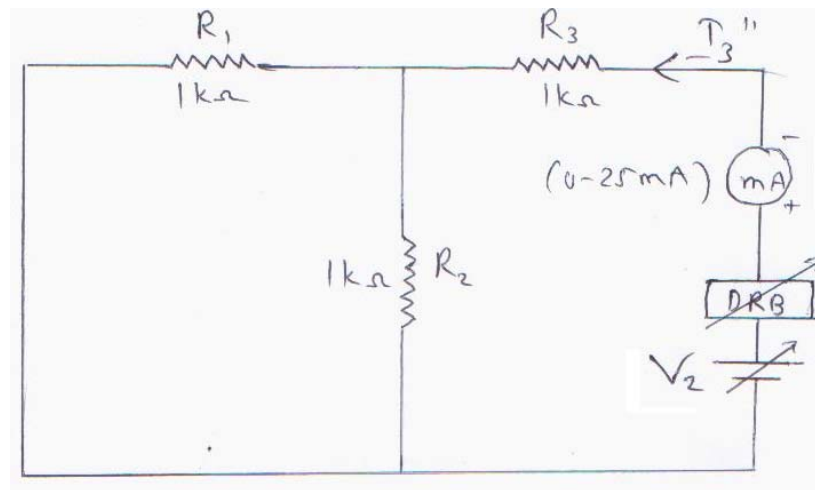

Figure 6.5
5. Now replace the voltage  $V_1$  by compensated voltage  $V_2$  as shown in figure 6.5 and find out the current  $I_3^{11}$  due to compensated voltage  $V_2$